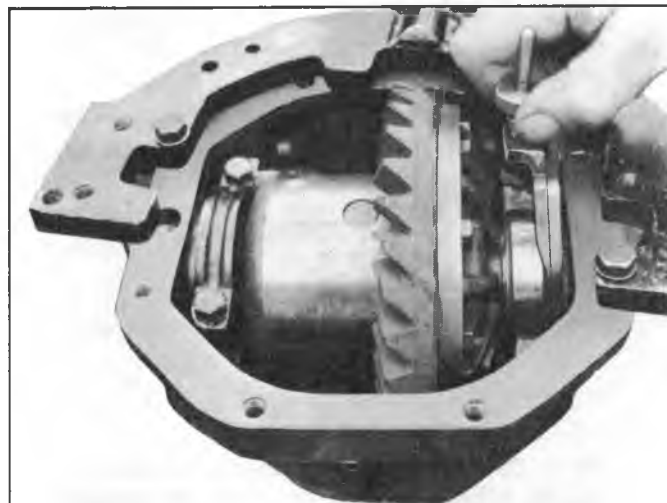

Fig. 22C--Measuring Differential Shim Requirement
5. With the ring gear tight against the pinion gear (.000" to .001" backlash), insert gauging Tool J-22779 between the left bearing cup and carrier housing. See Figure 22C. Turn adjusting nut clockwise while oscillating tool until a noticeable drag is produced.